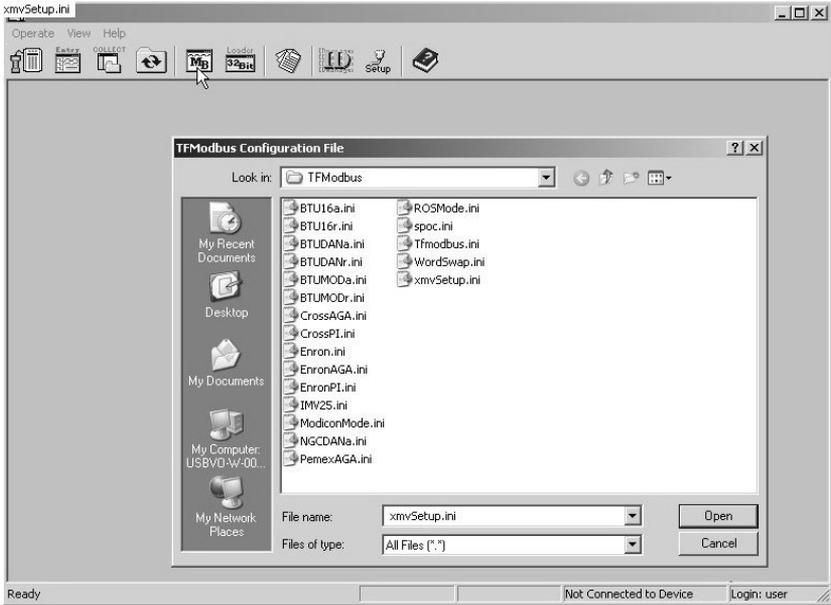

Figure 12 Activate TFMdbus Tool
- 8A** Open PCCU32. Click the TFModbus toolbar icon, MB (Figure 12). This will bring up the various Modbus drivers.